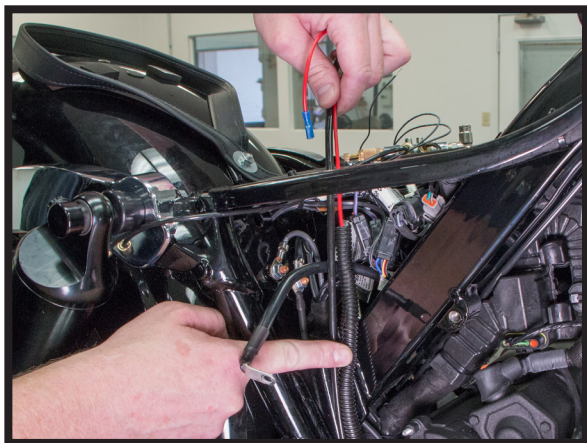

FIGURE 15
8. ROUTE THE RED PUMP WIRE AND THE 1/4" HOSE UP BEHIND THE BATTERY BOX. THEN, REINSTALL THE BATTERY BOX BACK INTO THE FRAME. REFER TO THE WIRING DIAGRAM IN THE BACK OF THIS MANUAL. YOU WILL WANT TO ROUTE THE POSITIVE AND GROUND WIRES THROUGH THE BACK OF THE BOX BEFORE REINSTALLING THE BATTERY. (FIGURES 15, 16)